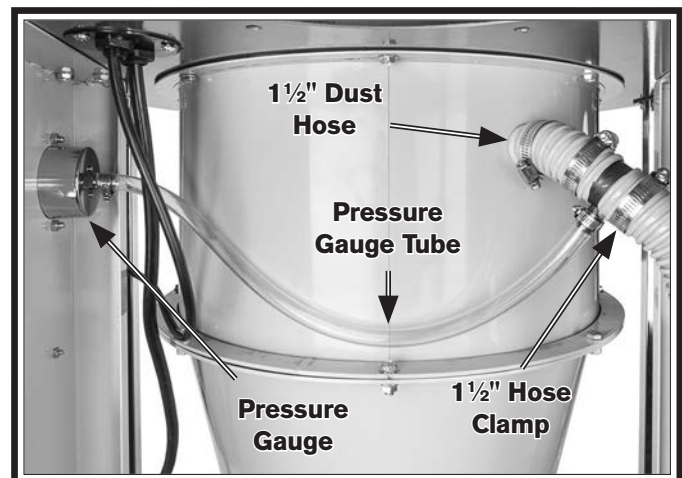

Figure 18. Pressure gauge tube and 1½" dust hose attached to barrel.
17. Connect pressure gauge tube to hose ports on barrel and pressure gauge (see **Figure 18**).
18. Attach 1½" hose to hose port on barrel with 1½" hose clamp (see **Figure 18**).